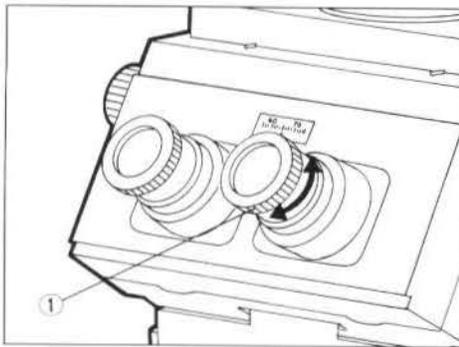

Fig. 28
Looking through one of the eyepieces, rotate the diopter adjustment ring ① on the eyepiece tube to obtain a sharp image of the reticle. (Fig. 28)